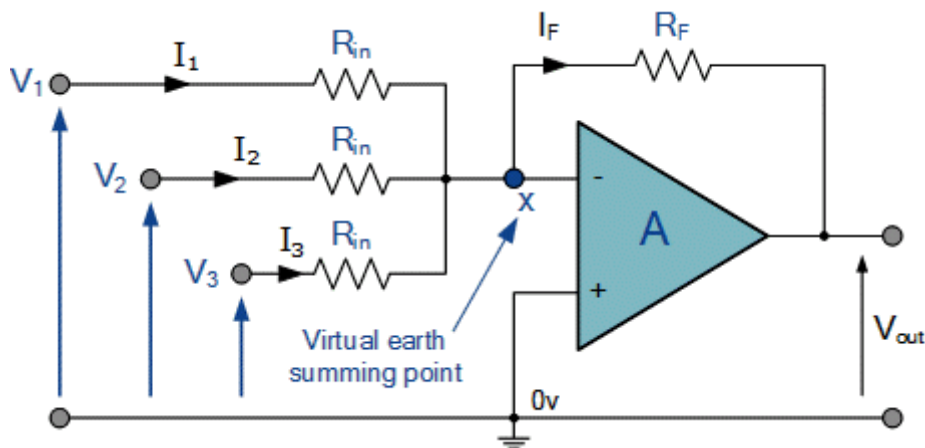

Fig. 11.1 Circuit diagram of summing amplifier
- Connect the circuit as shown in fig.11.1.